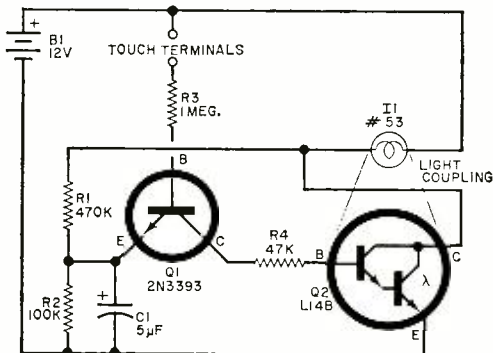

Fig. 3. Touch control circuit uses photo-Darlington transistor, which, once triggered, is held on by I1.
**Manufacturer's Circuit.** The versatile "touch control" circuit shown in Fig. 3 may be used in a variety of applications, depending on the needs, interests, and imagination of the user. Typically, it might be employed for special display or stage effects, in magic tricks, in emergency lighting, or as part of a safety alarm or signal system. It is one of a number of related circuits described in "Small Scale Integration in Low
Referring to Fig. 3, we find that the design features an *npn* photo-Darlington device (*Q2*) controlled by a conventional *npn* bipolar transistor, *Q1*. Resistors *R1* and *R2* form a voltage divider which establishes a net positive charge across *C1* when the circuit is in its off (nonconducting) state. Both *R3* and *R4* serve as base current-limiting resistors. The load is a conventional incandescent lamp while a 12-volt d.c. source furnishes circuit power.